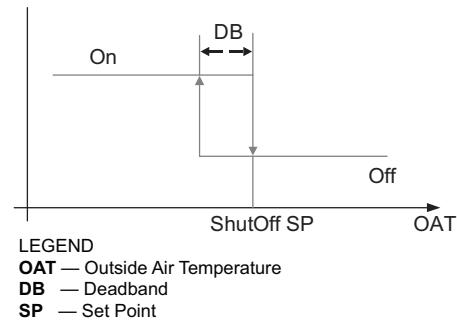

Fig. 75 — Hysteresis Settings
Hysteresis setting (DB) defaults to 2°F (−16.6°C). See Fig. 75.